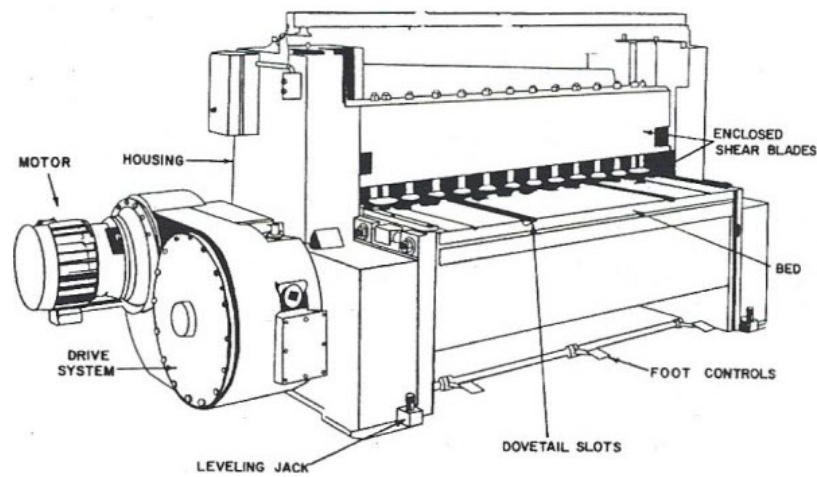

Figure 4 / Rajah 4
- (c) A hydraulic shear cutter machine is to be operated by using a single acting cylinder with spring return shown in Figure 4. The cylinder moves to extend position when the pedal is pressed. Draw a basic hydraulic circuit and label each of the components.